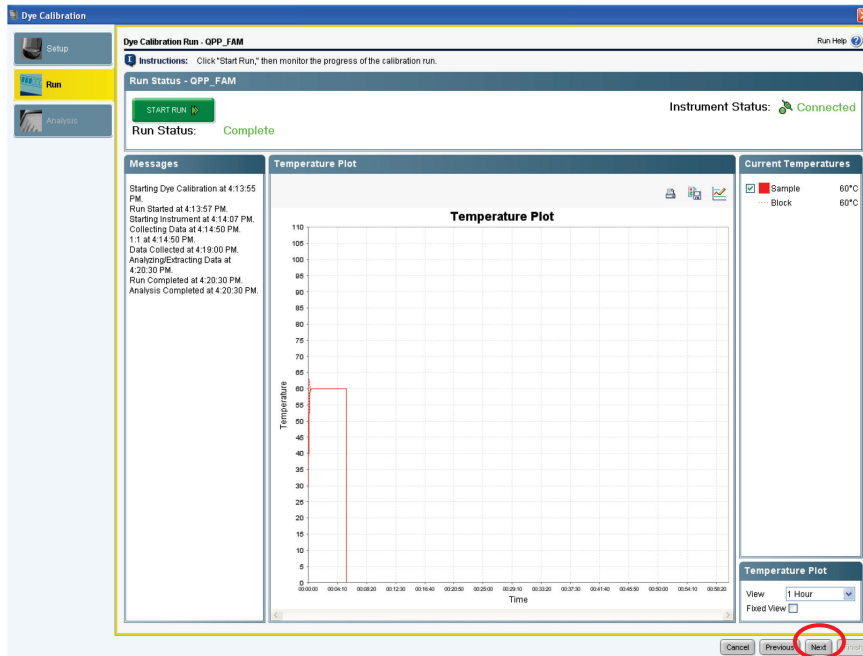

Figure 9. Completed calibration run.
20. After the calibration run has finished, click **Next** (Figure 9).